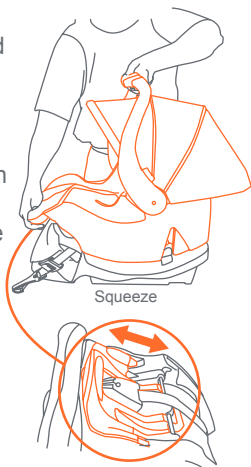

Fig. 23-1
- To remove the car seat from the base, squeeze the Base Release handle, located below the foot end of the Safety Seat, to release the Safety Seat from the Base (Fig. 23-1).